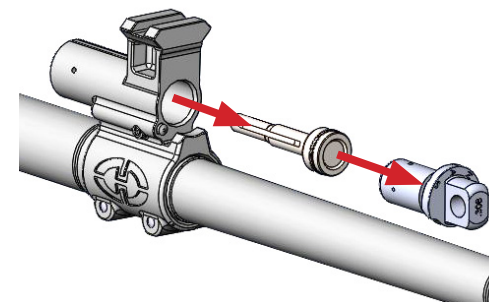

Fig. c-2
2. Using a 5/16" punch or similar object, push the piston out the front of the gas block from the back. (Fig. c-2)